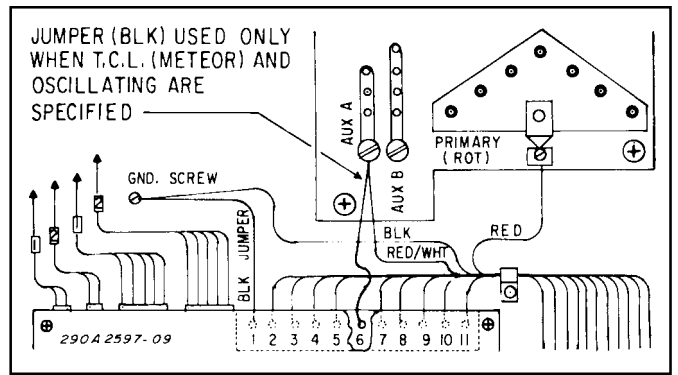

Figure 2.
C. *Primary and Secondary Option (see figure 2).*